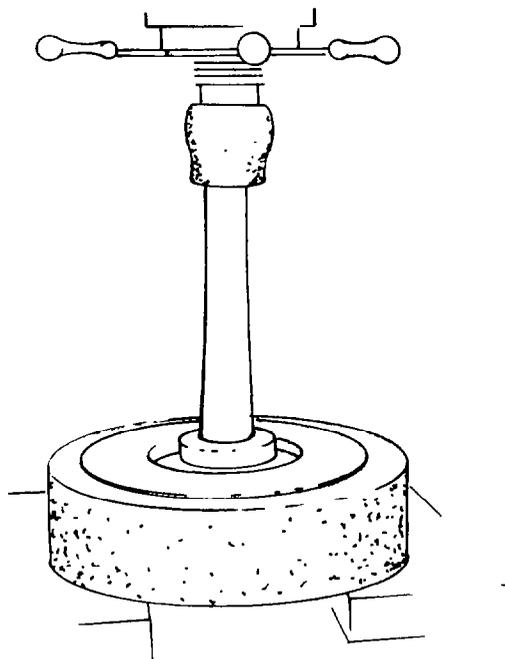

Fig. 279 — Removing Bearing Cone
- r. Remove the bearing cone from the outer cam, using a hydraulic press and the necessary segments and adapter rings (see fig. 279).